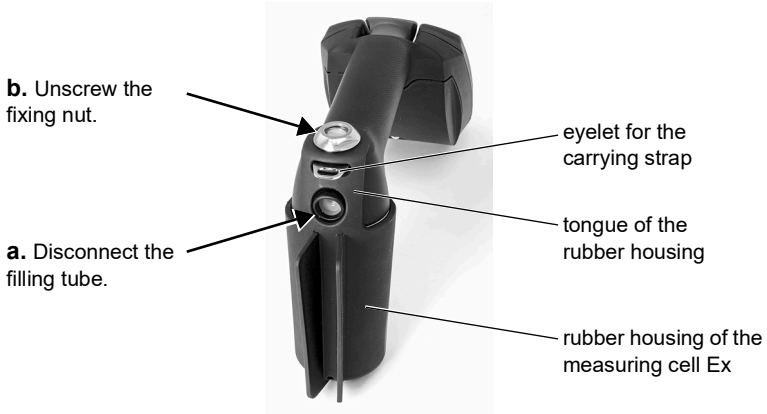

Fig. 13: Unmounting the rubber housing of the measuring cell Ex
1. *Only for DMA 35 Ex and DMA 35 Ex Petrol (see fig. 13):*